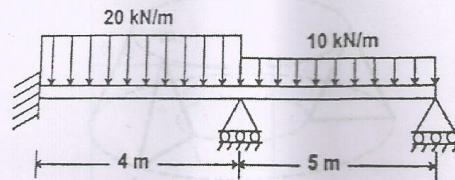

Figure 16(a)
16. (a) For the beam shown in Figure 16(a), compute slope at the hinged support points, Take $E = 200 \text{ GPa}$, $I = 4 \times 10^{-6} \text{ m}^4$. Use two beam elements.